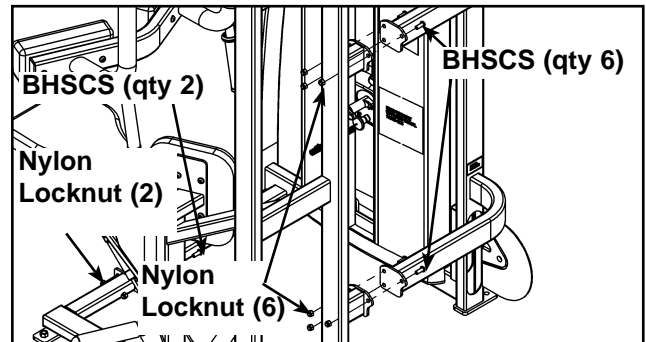

Figure 3
F. Carefully remove pivot shaft and pulley shaft. See Figure 3. **NOTE:** Be extremely careful when removing shaft so you don't ruin the threads on the shaft.
G. With an assistant, carefully remove the eight BHSCS securing the two halves of the frame. See Figure 3.
I. With an assistant, carefully attach each half together using the eight BHSCS removed in step 4G. See Figure 3.